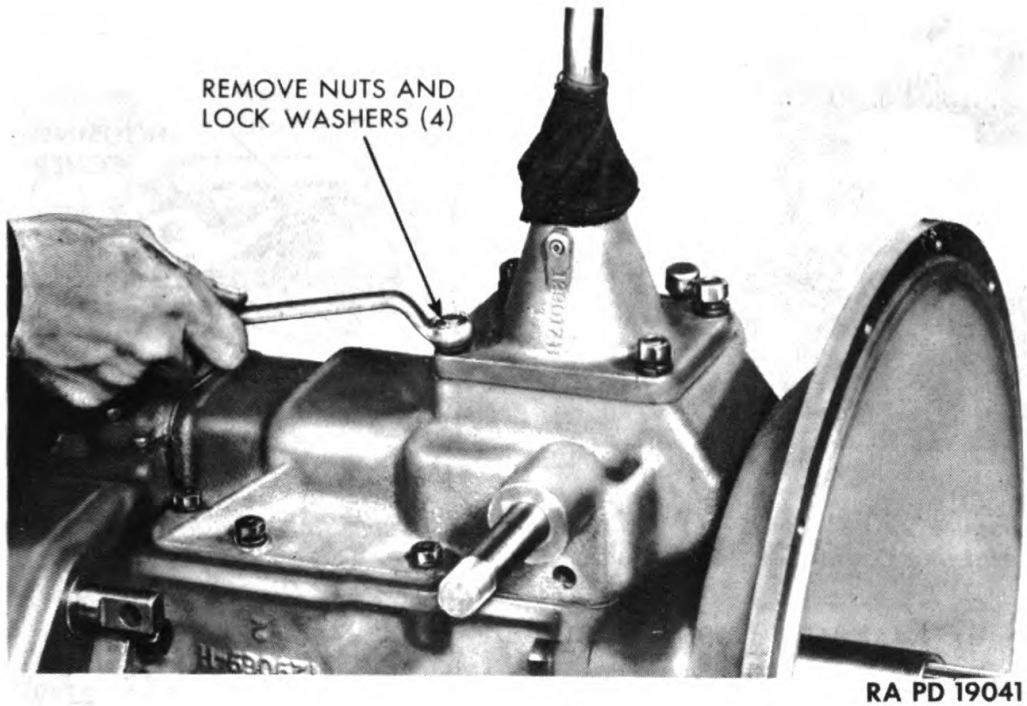

Figure 119 — Removing Shifter Housing Cover Nuts
b. **Remove Transmission Shifter Housing Cover Assembly.** Place transmission gears in neutral position. Remove four nuts and lock washers from housing studs (fig. 119). Lift off shift lever and housing cover assembly, and remove gasket (fig. 120).